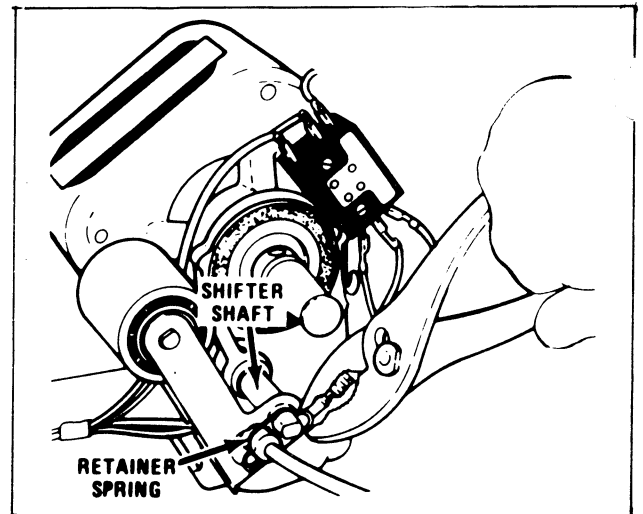

Figure B2
3. With the aid of pliers remove the retainer spring, *Figure B2*.